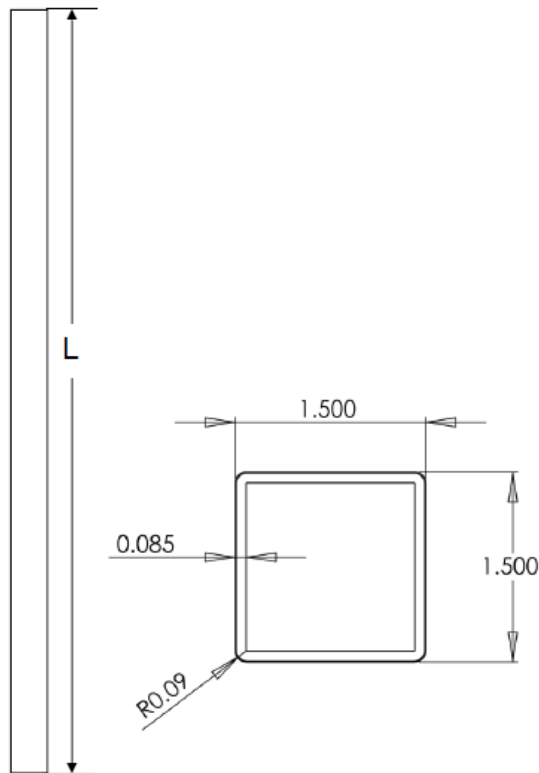

FIGURE 1 – VINYL PICKET
3.1.4 Balusters are 1.5" square and come in two styles, picket and spindle. Pickets are 1.5" square throughout its length. Spindles are 1.5" square at the ends and blow molded to form a turned spindle shape through the mid-section of the length. See Figures 1 and 2.